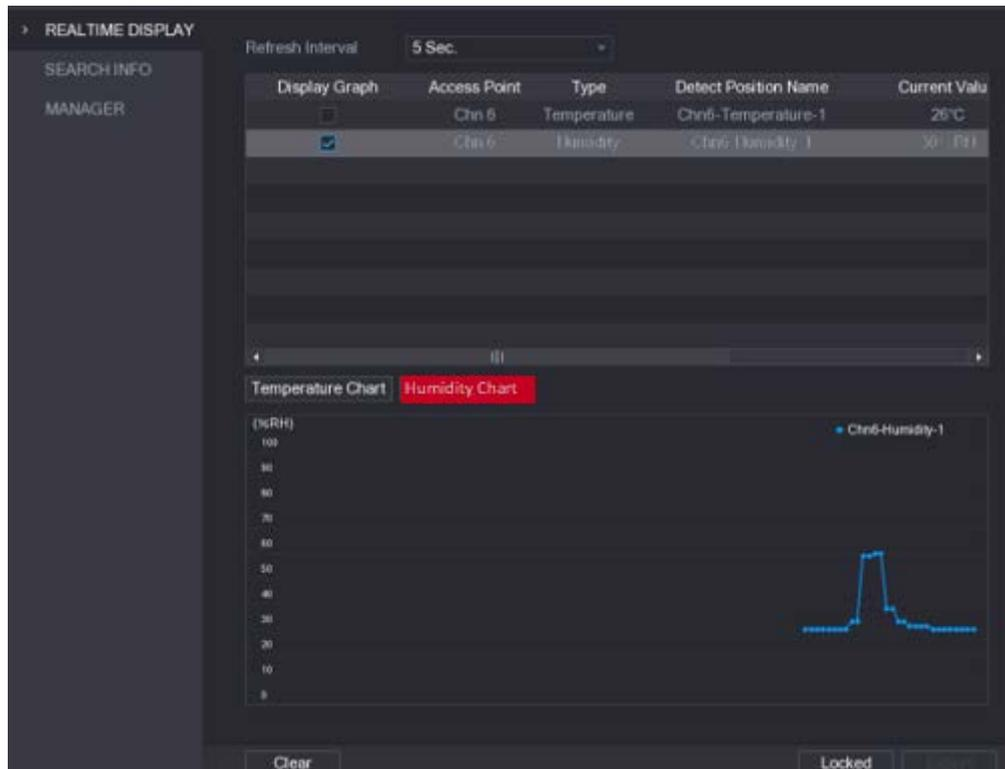

Figure 5-154
Step 2 On the **Realtime Display** interface, click the **Humidity** tab. See Figure 5-154